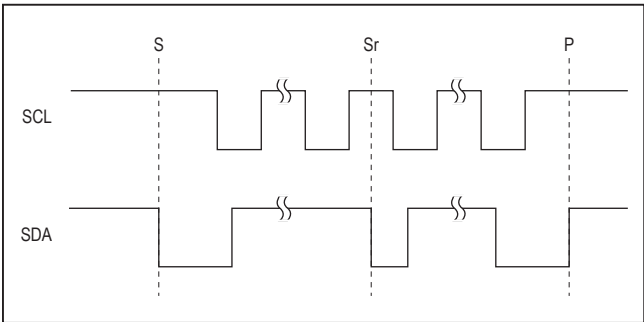

Figure 6. I2C START, STOP and REPEATED START Conditions
When writing to the MAX20335 using I2C, the master sends a START condition (S) followed by the MAX20335 I2C address. After the address, the master sends the register address of the register that is to be programmed. The master then ends communication by issuing a STOP condition (P) to relinquish control of the bus, or a REPEATED START condition (Sr) to communicate to another I2C slave. See Figure 6.